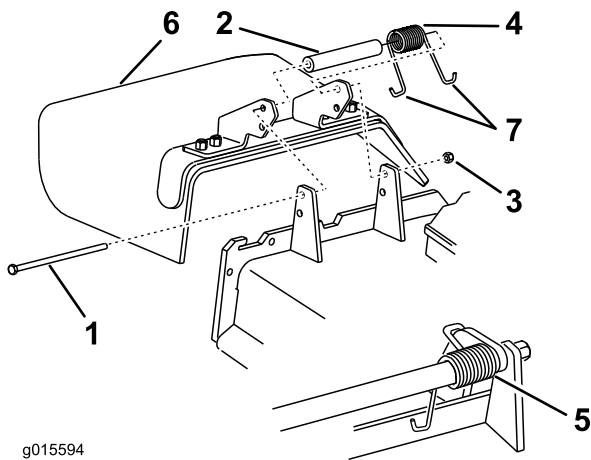

Figure 97
- Remove the locknut, bolt, spring, and spacer holding the deflector to the pivot brackets (Figure 97).
Note: Make sure that one J end of spring is installed behind deck edge before installing the bolt as shown in Figure 97.
- Place one J hook end of spring around grass deflector (Figure 97).